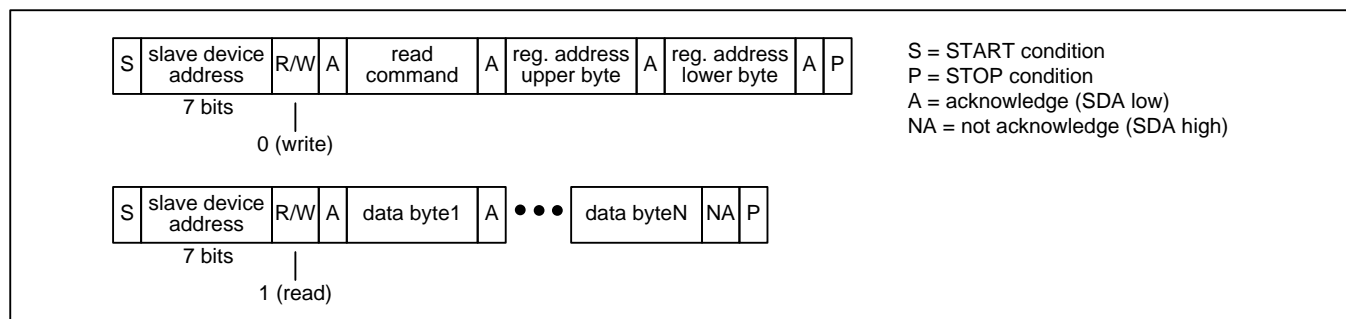
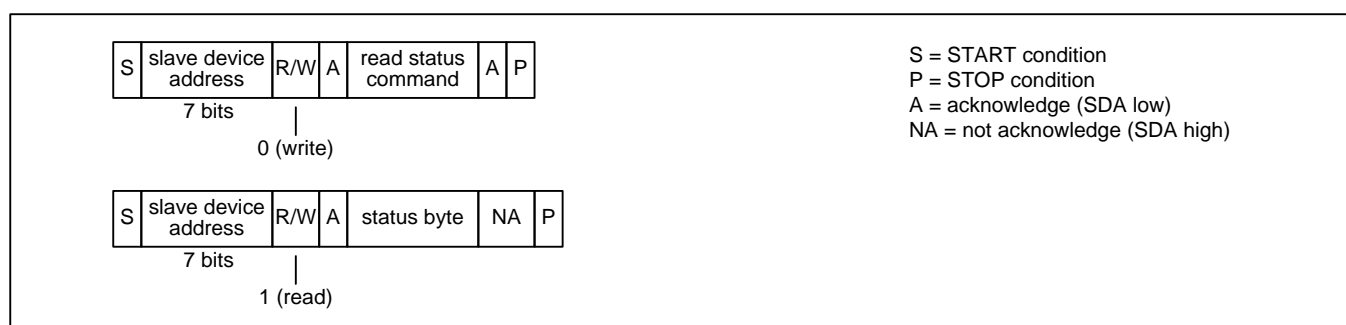

Figure 9 - I²C Read Transaction Functional Timing
Figure 12 - I²C EEPROM Read Status Transaction Functional Timing (ZL30265 and ZL30267 Only)
Read Transactions. The device registers are accessible when the EESSEL bit is 0. On ZL30265 and ZL30267 the internal EEPROM memory is accessible when the EESSEL bit is 1. On ZL30264 and ZL30266 the EESSEL bit must be set to 0. The bus master first does an I²C write to the device. In this transaction three bytes are written: the SPI Read command (see Table 3), the upper byte of the register address, and the lower byte of the register address. The bus master then does an I²C read. During each acknowledge (A) bit the device fetches data from the read address and then increments the read address. The device then transmits the data to the bus master during the next 8 SCL cycles. The bus master terminates the read with a not-acknowledge (NA) followed by a STOP condition (P). See Figure 9. After the I²C write there can be unlimited idle time on the bus before the I²C read, but the device cannot tolerate other I²C bus traffic between the I²C write and the I²C read. Care must be taken to ensure that the I²C read is the first command on the bus after the I²C write to ensure the two-part read transaction happens correctly.
EEPROM Read Status (ZL30265 and ZL3026 Only). The bus master first does an I²C write to transmit the SPI Read Status command (see Table 3) to the device. The bus master then does an I²C read to get the status byte. In this byte, the least significant bit is set to 1 if the transfer is still in progress and 0 if the transfer has completed. See Figure 12. Similar to read transactions described above, the I²C write and the I²C read cannot be separated by other I²C bus traffic.
Note: In Figure 9 through Figure 12, a STOP condition (P) immediately followed by a START condition (S) can be replaced by a repeated START condition (Sr) as described in the I²C specification.